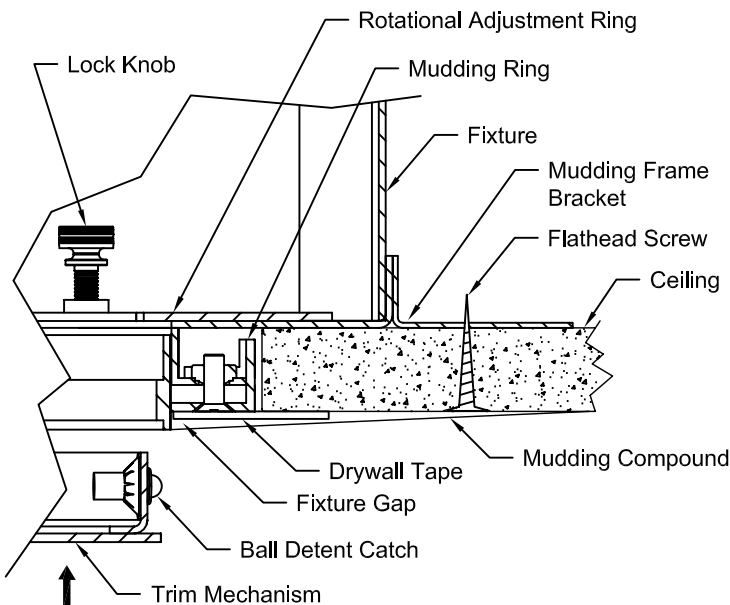

Figure 3
6. Install Ceiling drywall up to Mudding Ring on Fixture so that the two (2) Mudding Frame Brackets contact inside of Ceiling. See Fig. 3.
7. Retain Fixture to Ceiling with one (1) Flathead Screw through each of the two (2) Mudding Frame Bracket. See Fig. 3.
8. Apply Drywall Tape and Mudding Compound to Mudding Ring overlapping Mudding Ring, Flathead Screws, Fixture Gap and surrounding area. Feather out Mudding Compound from Mudding Ring opening to surrounding ceiling area to produce a smooth, flat finish. See Fig. 3.
2. Install Trim Mechanism into Fixture by pressing firmly to seat Ball Detent Catches. See Fig. 3.